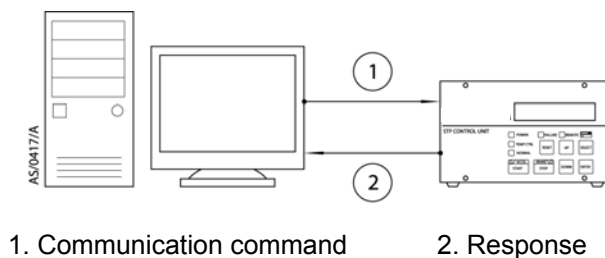

Figure 34 - PC to SIM communication
The STP serial communication protocol enables the SIM to receive the communication command (Figure 34, item 1), transmitted from the PC and send a response (Figure 34, item 2), following the communication command. Each communication command from the PC transmits a text message (ASCII text) assigned to each function. Communication commands include control commands (STP pump operation commands, and so forth) and query commands (read-out of STP pump operation mode, and so forth).